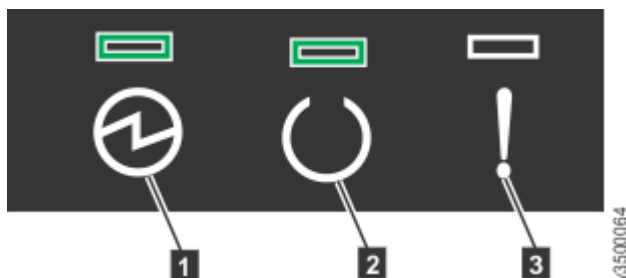

Figure 29. Expansion enclosure LEDs
2. From the rear of the rack, check the LEDs on each expansion enclosure (see Figure 29 on page 70).